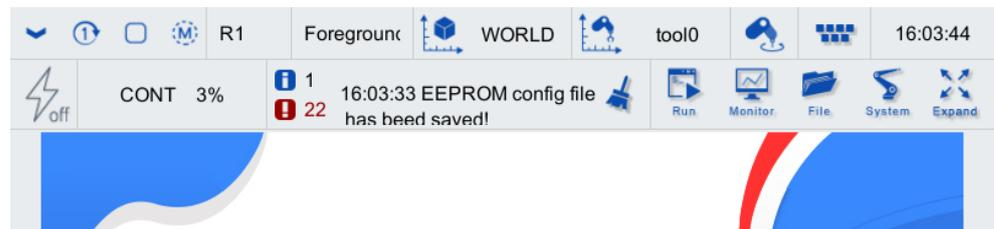

Figure 8-60 "Configuration file is exported successfully" prompt message
Step3.The message bar prompts "EEPROM configuration file has been saved!", as shown in Figure 8-60. Then the configuration file is exported to the selected path.